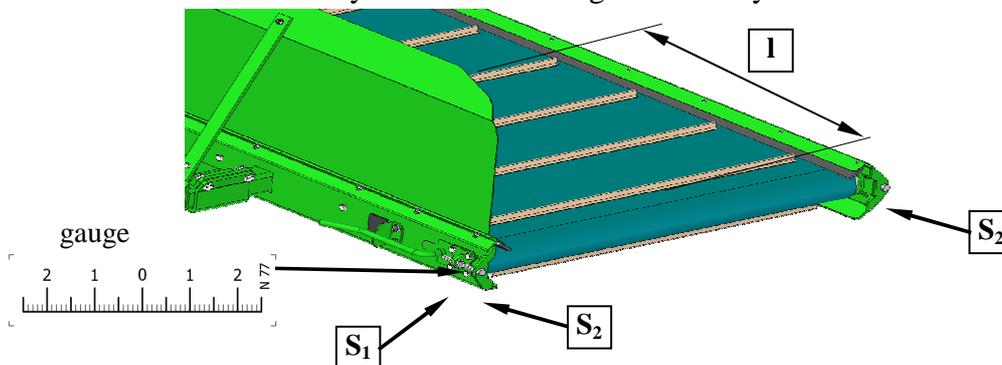

Fig. 33.
1. Mark two lines on newly mounted belt in intervals of $l = 3.9''$ (Fig. 33).